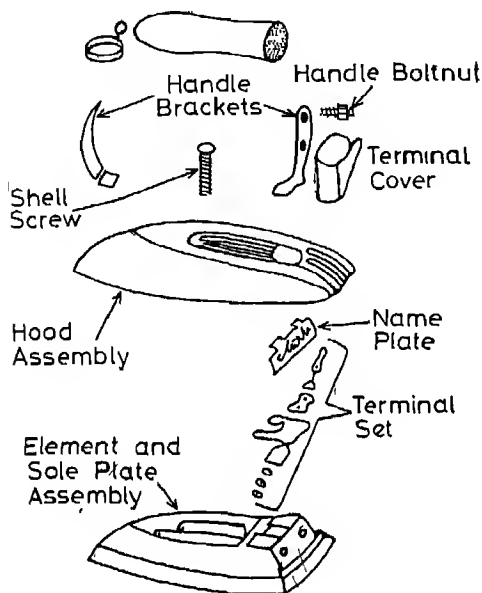

Fig. 10.1(b) Parts of Non-automatic Iron.
- (i) Study and check each component of the non-automatic iron shown in Fig. 10.1(b) and make a list of components.